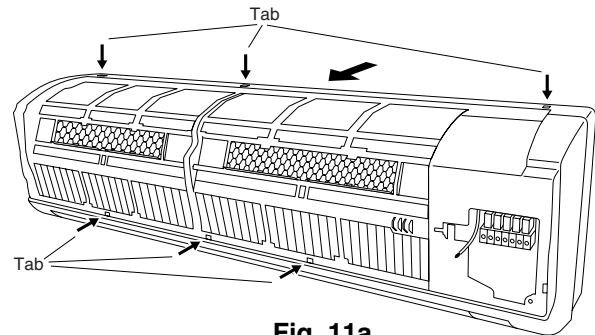

Fig. 11a
- (5) Press the 3 tabs at the top of the grille and the 3 tabs on the front face to separate the grille from the frame. (Fig. 11a)
- (6) Pull the grill toward you to remove it.